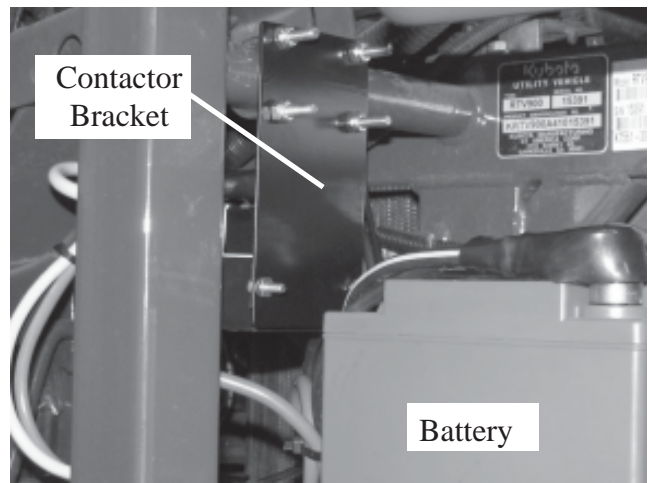

Figure 14
6. Secure the contactor mount to the cross tube in front of the battery using the 1/4" u-bolts, washers, lock washers and nuts, Figure 14.